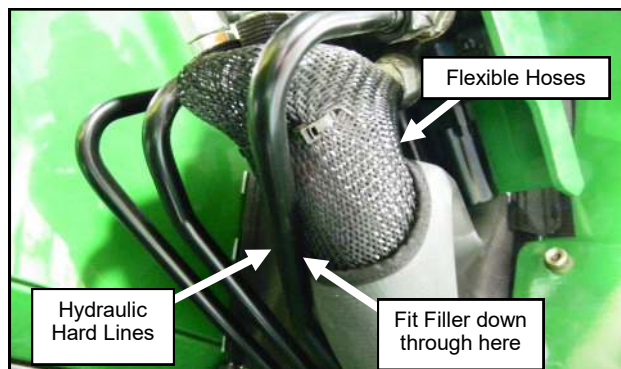

Fig. 19.2 (Install Front Filler)
- 19.2** Inside the cab, slide the front filler between the outer hard hydraulic line and the bundle of flexible lines. See Figure 19.2.